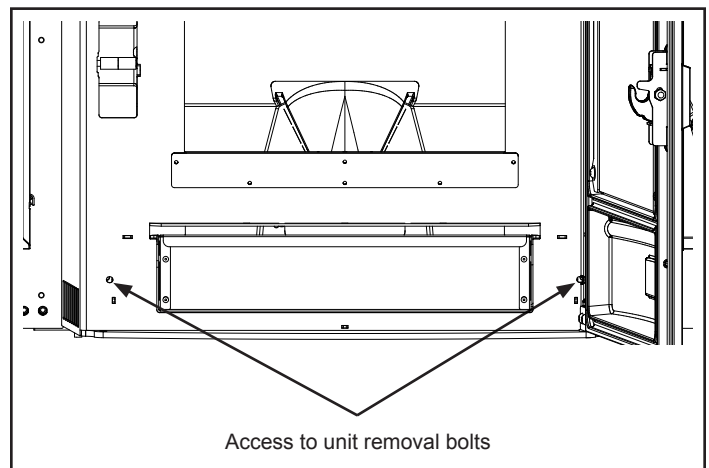

Figure 2.6
- Using the T-Handle allen wrench supplied with the unit, loosen allen bolts and slide unit from frame (Figure 2.6) onto the hearth or onto the service rail kit, if purchased.